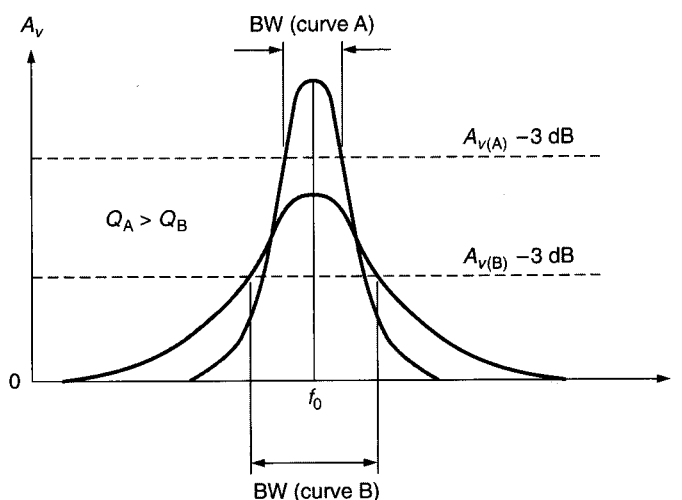

FIGURE 17.5 Bandwidth versus roll-off rate.
The lower the roll-off rate of an amplifier, the greater its bandwidth. This relationship is illustrated in Figure 17.5, which shows the frequency-response curves of two tuned
8. Based on the curves in Figure 17.5, what is the relationship (if any) between amplifier  $Q$  and voltage gain?